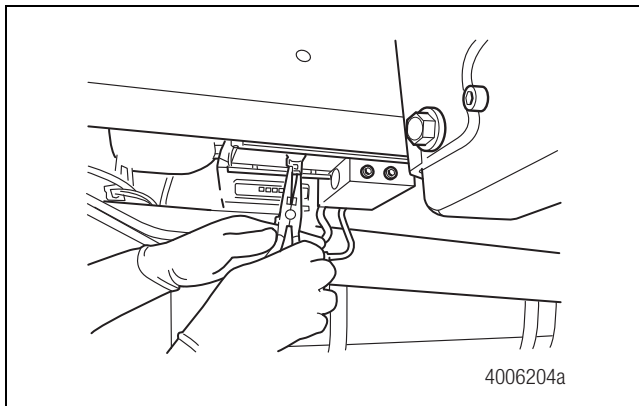

Figure 4.33
11. Use needle nose pliers with a good grip to remove the pump from the bore. Use care to prevent damage to the O-rings. Avoid sliding the needle nose pliers on the pump. This can produce metal filings or contaminants which can enter the pump bore. Do not leave any foreign material in the pump bore. Figure 4.33.